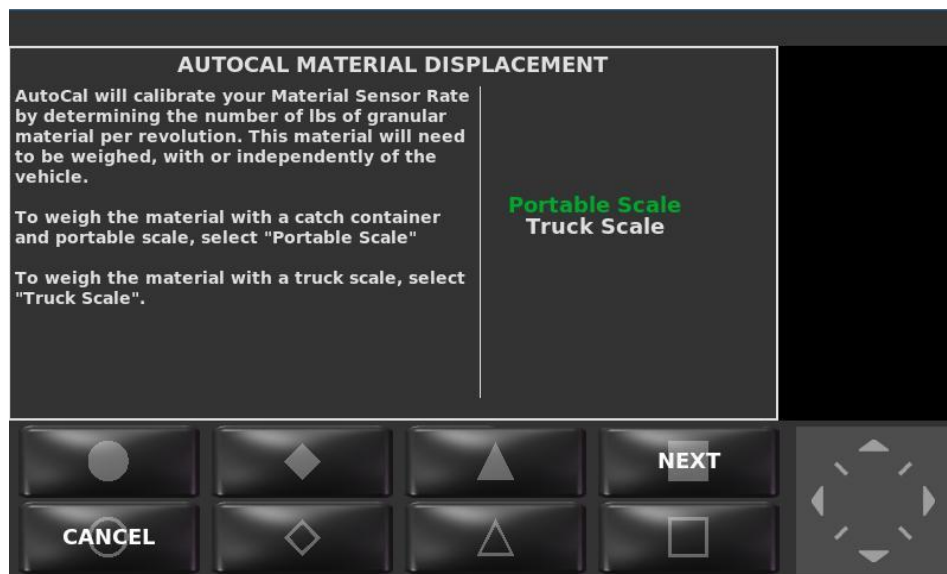

Figure 5: AutoCalibration Granular Material Displacement Wizard
- STEP 14: The AutoCal Displacement wizard will appear, as shown in Figure 5.